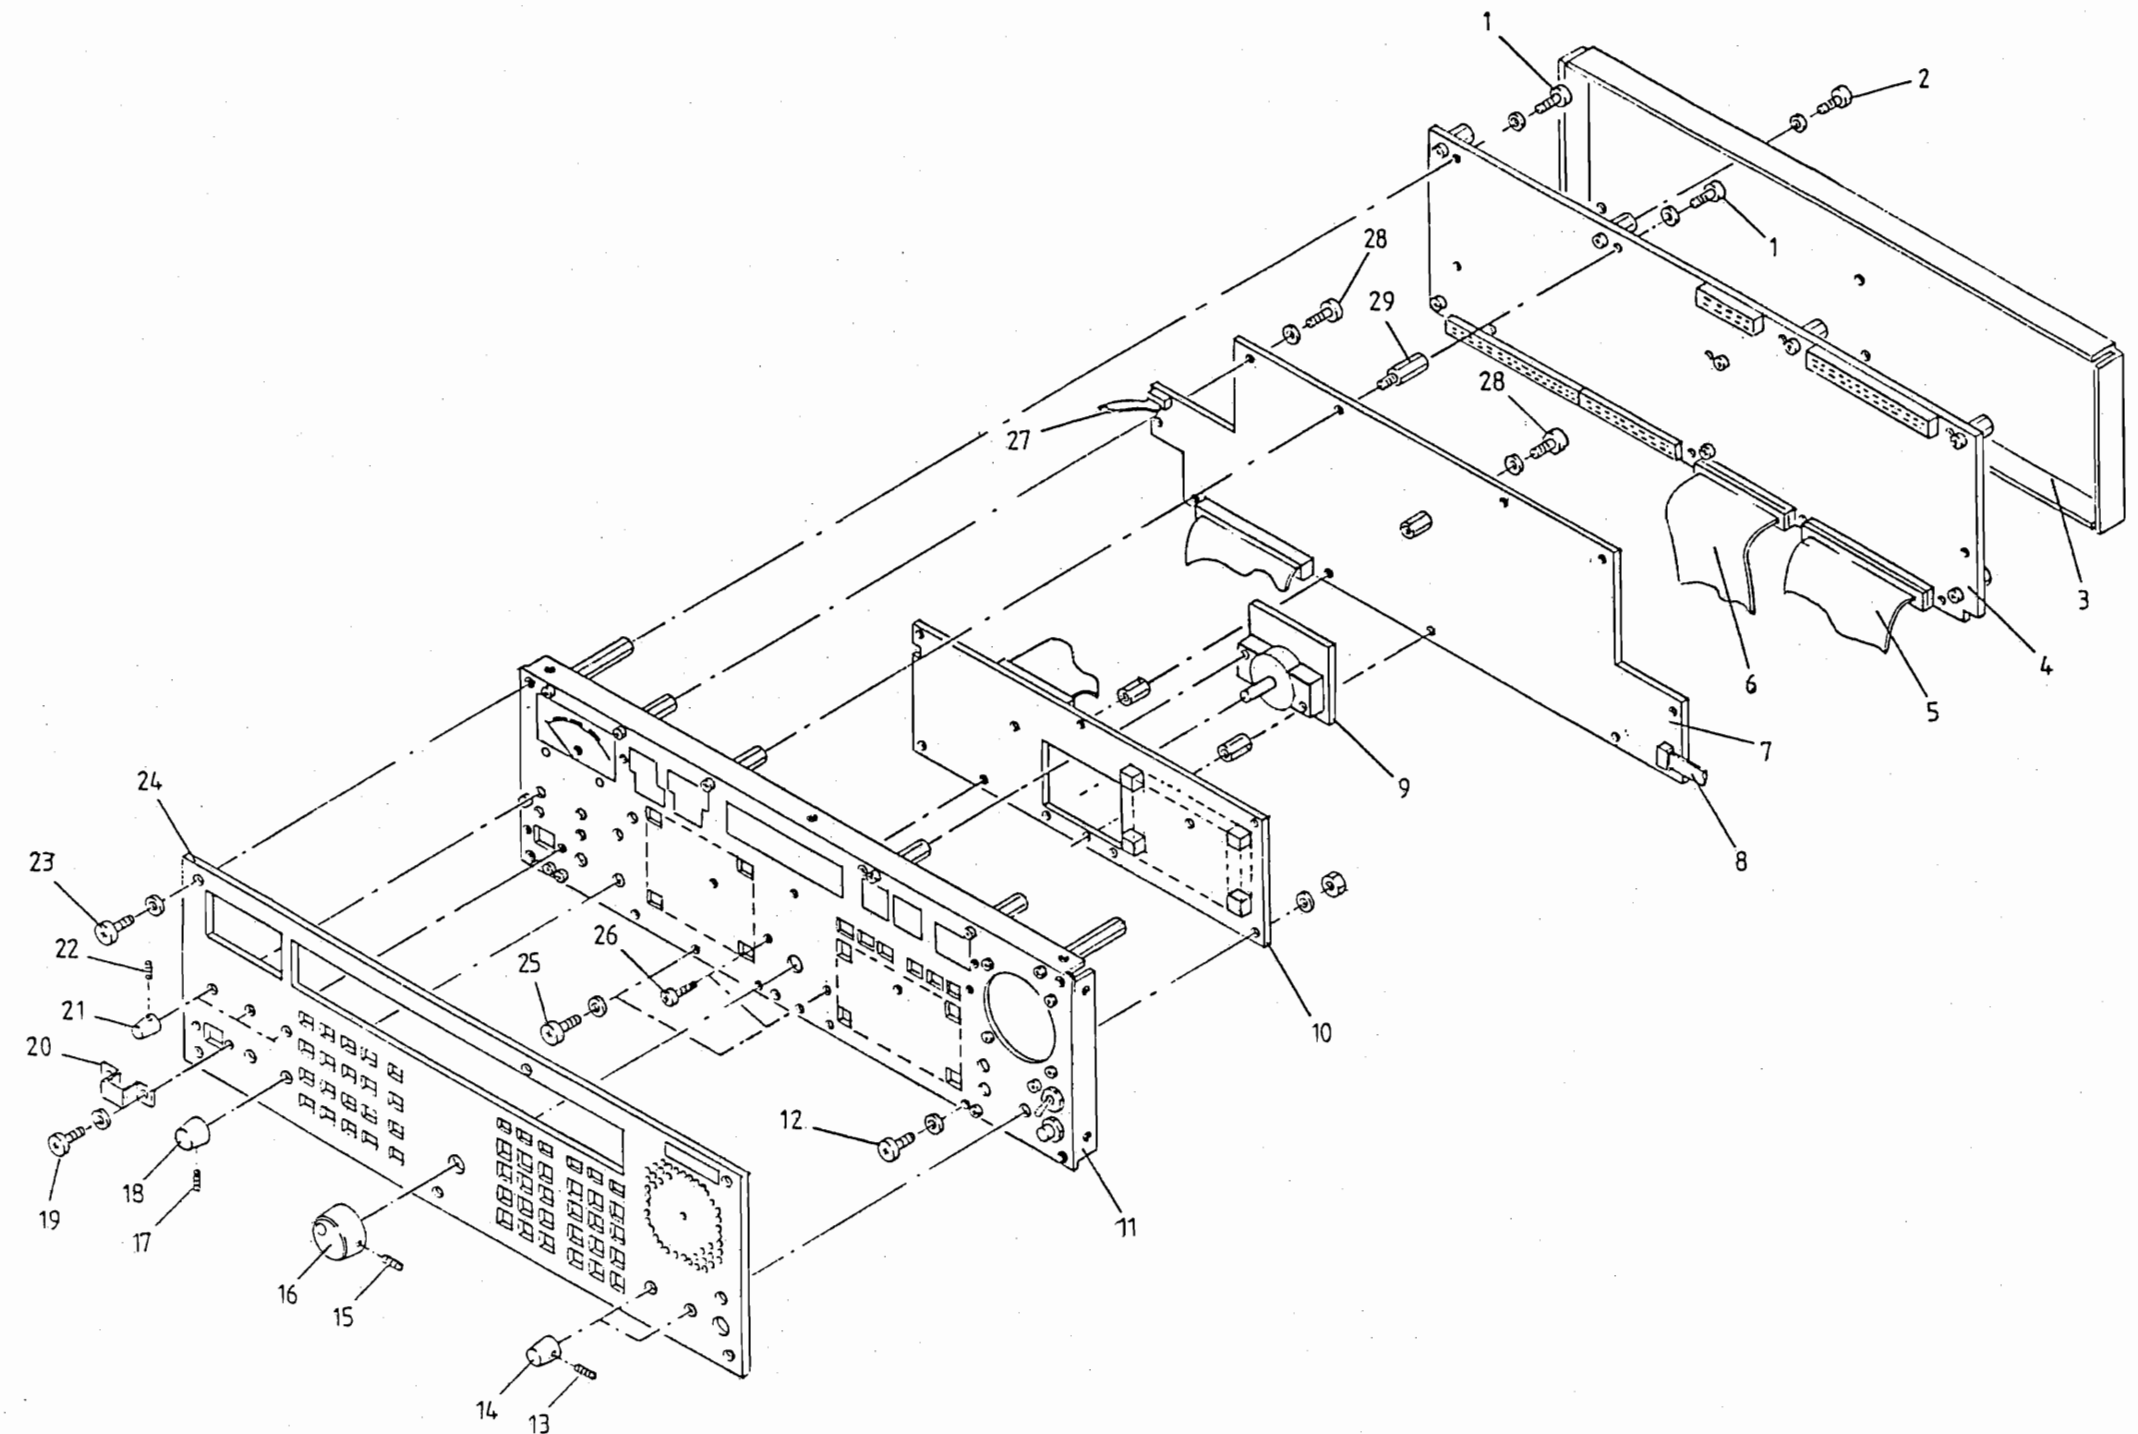

Fig. 6.3 Removal of Subassemblies
- Loosen grub screws (13, 15, 17, 22, Fig. 6.3) and withdraw knobs (14, 16, 18, 21).
- Undo two screws (19) and remove bracket (20).
- Undo six screws (23) and remove front panel (24).
1. Undo eight screws (2) and remove rear panel (3).
3. Undo eleven screws (1) and remove processor (4).
1. Undo eight spacer bolts (29, Fig. 6.3) and three screws (28).
2. Withdraw connector X1 (27) and X2 (8) from display board.
3. Remove display board (7).
- 1) Undo two screws (26, Fig. 6.3).
- 2) Undo eight screws with nuts (12) and three screws with spacer bolts (25).
- 3) Remove keypad board (10) with pulse-generator board (9).